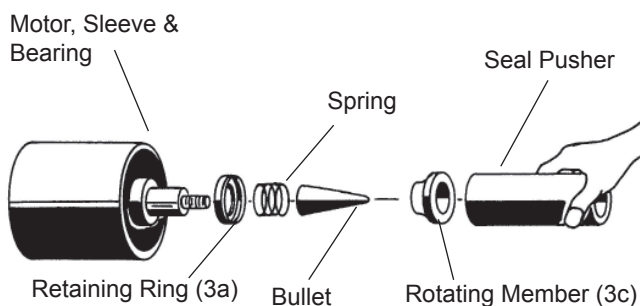

FIGURE 13
Place spring retainer and spring onto motor shaft. Lightly oil shaft (**DO NOT use grease**) and inner surface of bellows of rotating member. With finished end away from motor, slide rotating member over bullet and onto shaft until it engages spring (see Fig. 13). Carefully assemble shaft to seal plate as per section F-3.3. It is extremely important to keep seal faces clean during assembly. Dirt particles lodged between these faces will cause the seal to leak. When seal plate is assembled to motor, it will properly align and seat the seal (3) and bearing (4). Follow complete reassembly instructions as per section F-3.3.